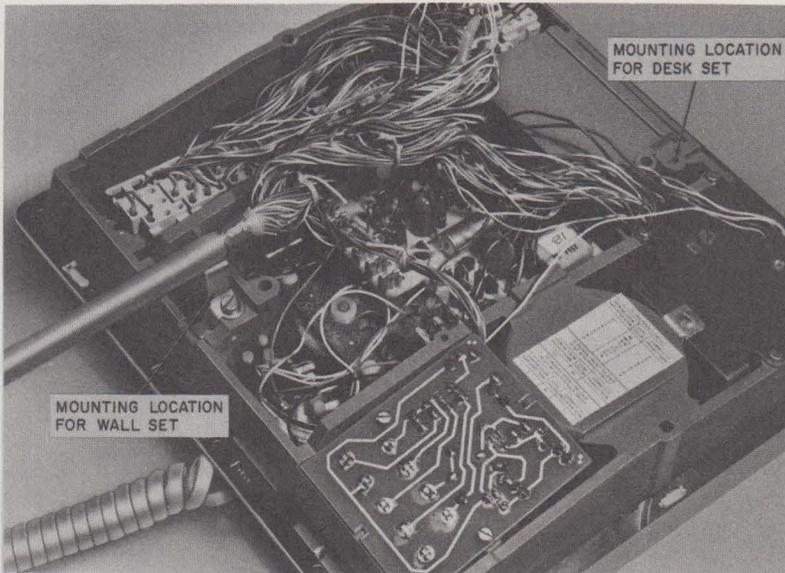
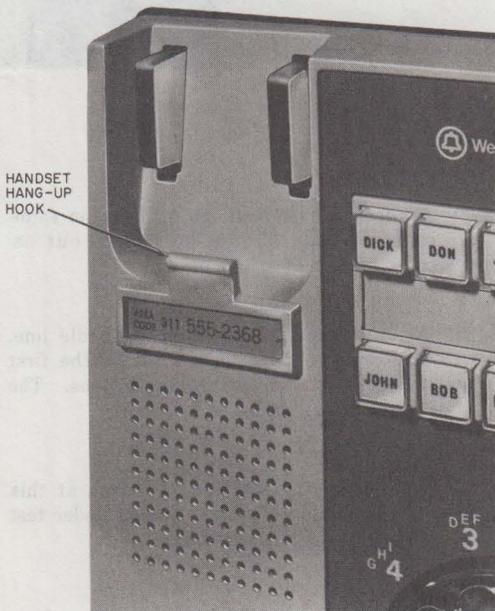

Fig. 8—Set Modification for Wall Mounting
Fig. 9—Handset Hook Attachment for Wall Set
- (1) Loosen screws and remove the lower housing.
- (2) Remove screw holding mounting cord attachment bracket at rear of set.
- (3) Refasten bracket using screw in the position shown in Fig. 8.
- (4) Rotate the lower housing 180 degrees from the desk model position and fasten housing to base.
- (5) If plastic designation card cover has been installed, remove cover using a KS-16750 releaser, then remove screw from recess and discard screw.
- (6) Install plastic handset hook (Fig. 9) from the D-180658 kit of parts using longer screw also furnished with kit.